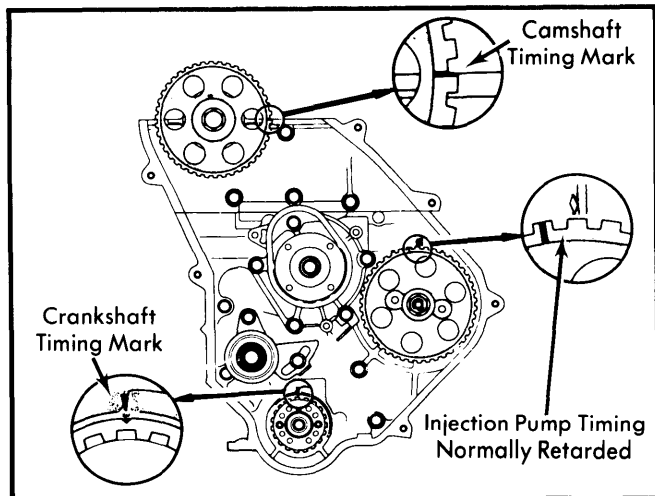

Fig. 3 Timing Mark Alignment Before Turning Crankshaft 2 Revolutions
2) Check camshaft timing pulley, injection pump pulley and crankshaft pulley for wear or damage. Install idler pulley loose enough so it may be moved side to side by hand. Check alignment of timing marks on each pulley as shown in Fig. 3. Injection pump timing is normally retarded.